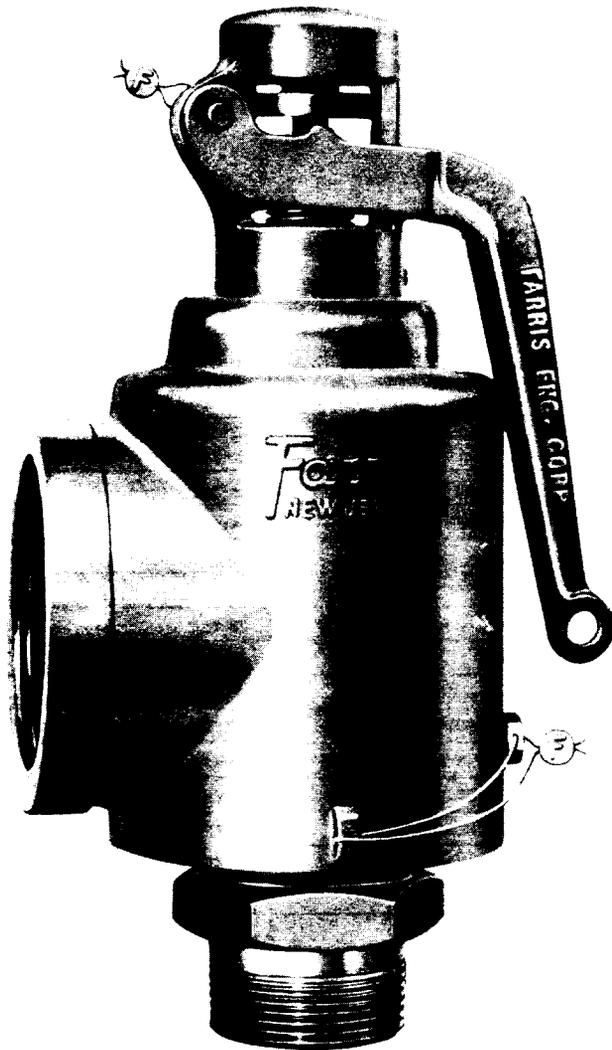

Fig. 31—Safety Valve (Farris Engineering Corporation)
**8.53** Safety valves (Fig. 31 and 32) are associated with steam boilers and are characterized by a full-open pop-action.